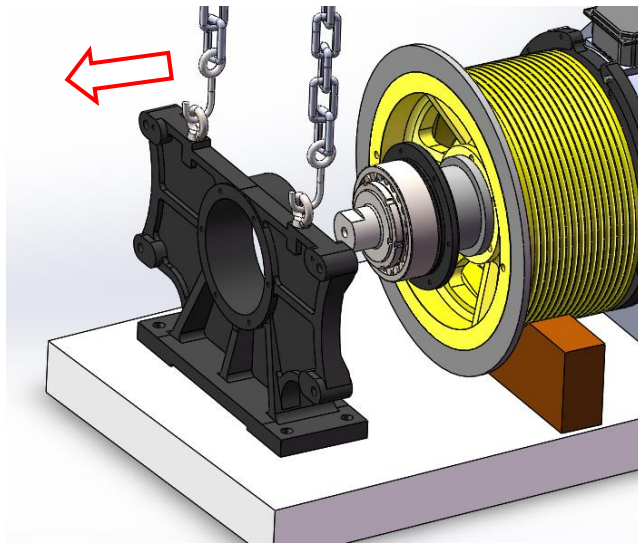

Figure 80: Remove Pedestal
10. Use the pull-off device to dismantle the pedestal body and pedestal together. See Figure 80.